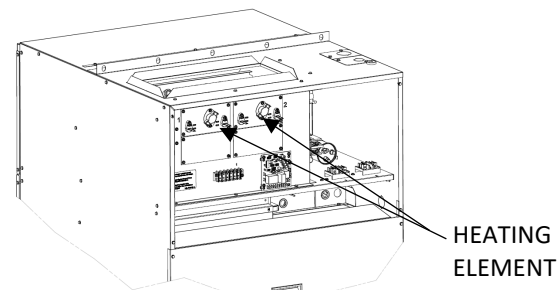

FIGURE 27 – Disconnect Wire
- 3) Disconnect wires from the heating element whose fuse link is open, remove screws from the mounting plate. Refer to **FIGURE 27– Disconnect Wire**